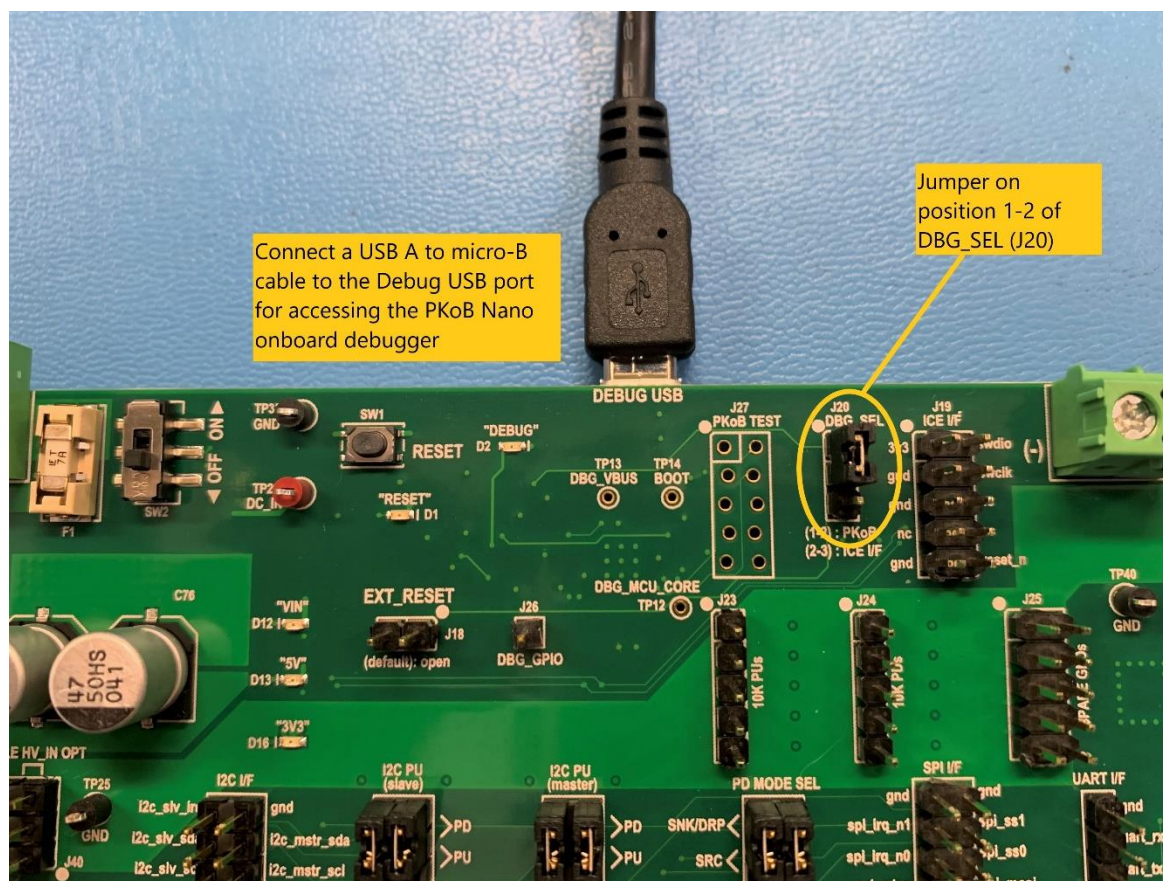

Figure 5.3 Programming using On-board debugger
4. Connect a USB Micro-B cable to “DEBUG USB” which on the top of the board as shown in the figure 5.3 and connect the other end USB Type-A to the laptop for using the on-board debugger for programming